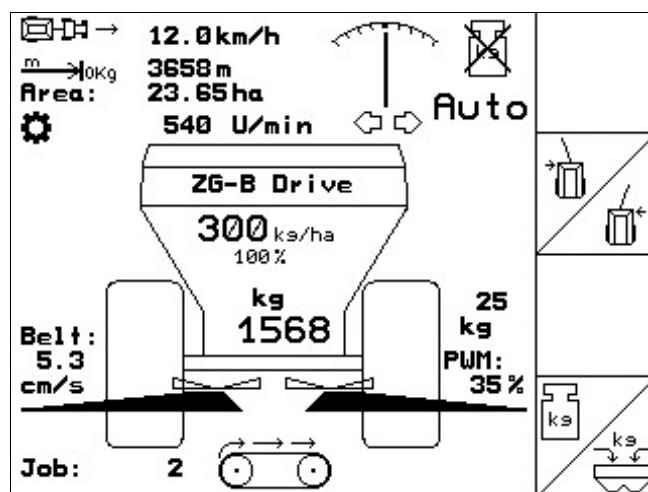

Fig. 48
- The operation menu shows the applied amount of fertiliser (Fig. 48/1).